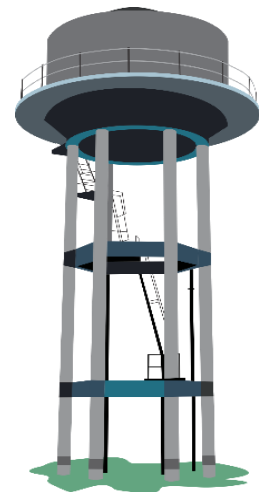

Fig. 2.11: Elevated Surface Reservoir (ESR)
**2. Elevated Surface Reservoir (ESR) or elevated storage tank:** ESR is constructed, where water is to be supplied at elevated height (less than the level of ESR) or where the distance is large and topography is undulating. Generally, ESR shown in Fig. 2.11 is at height more than 15 m. Water can be distributed directly from this storage tank by gravity.